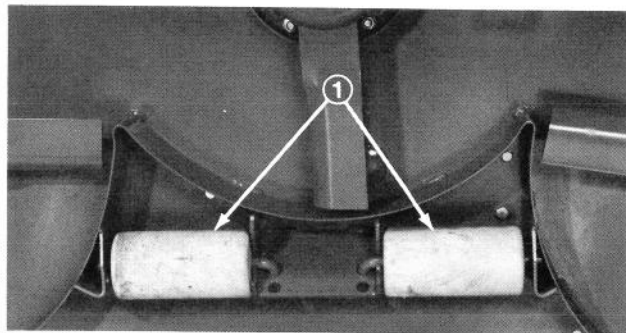

Figure 10
3. Remove cotter pins securing roller shafts to underside of deck (Fig. 10).